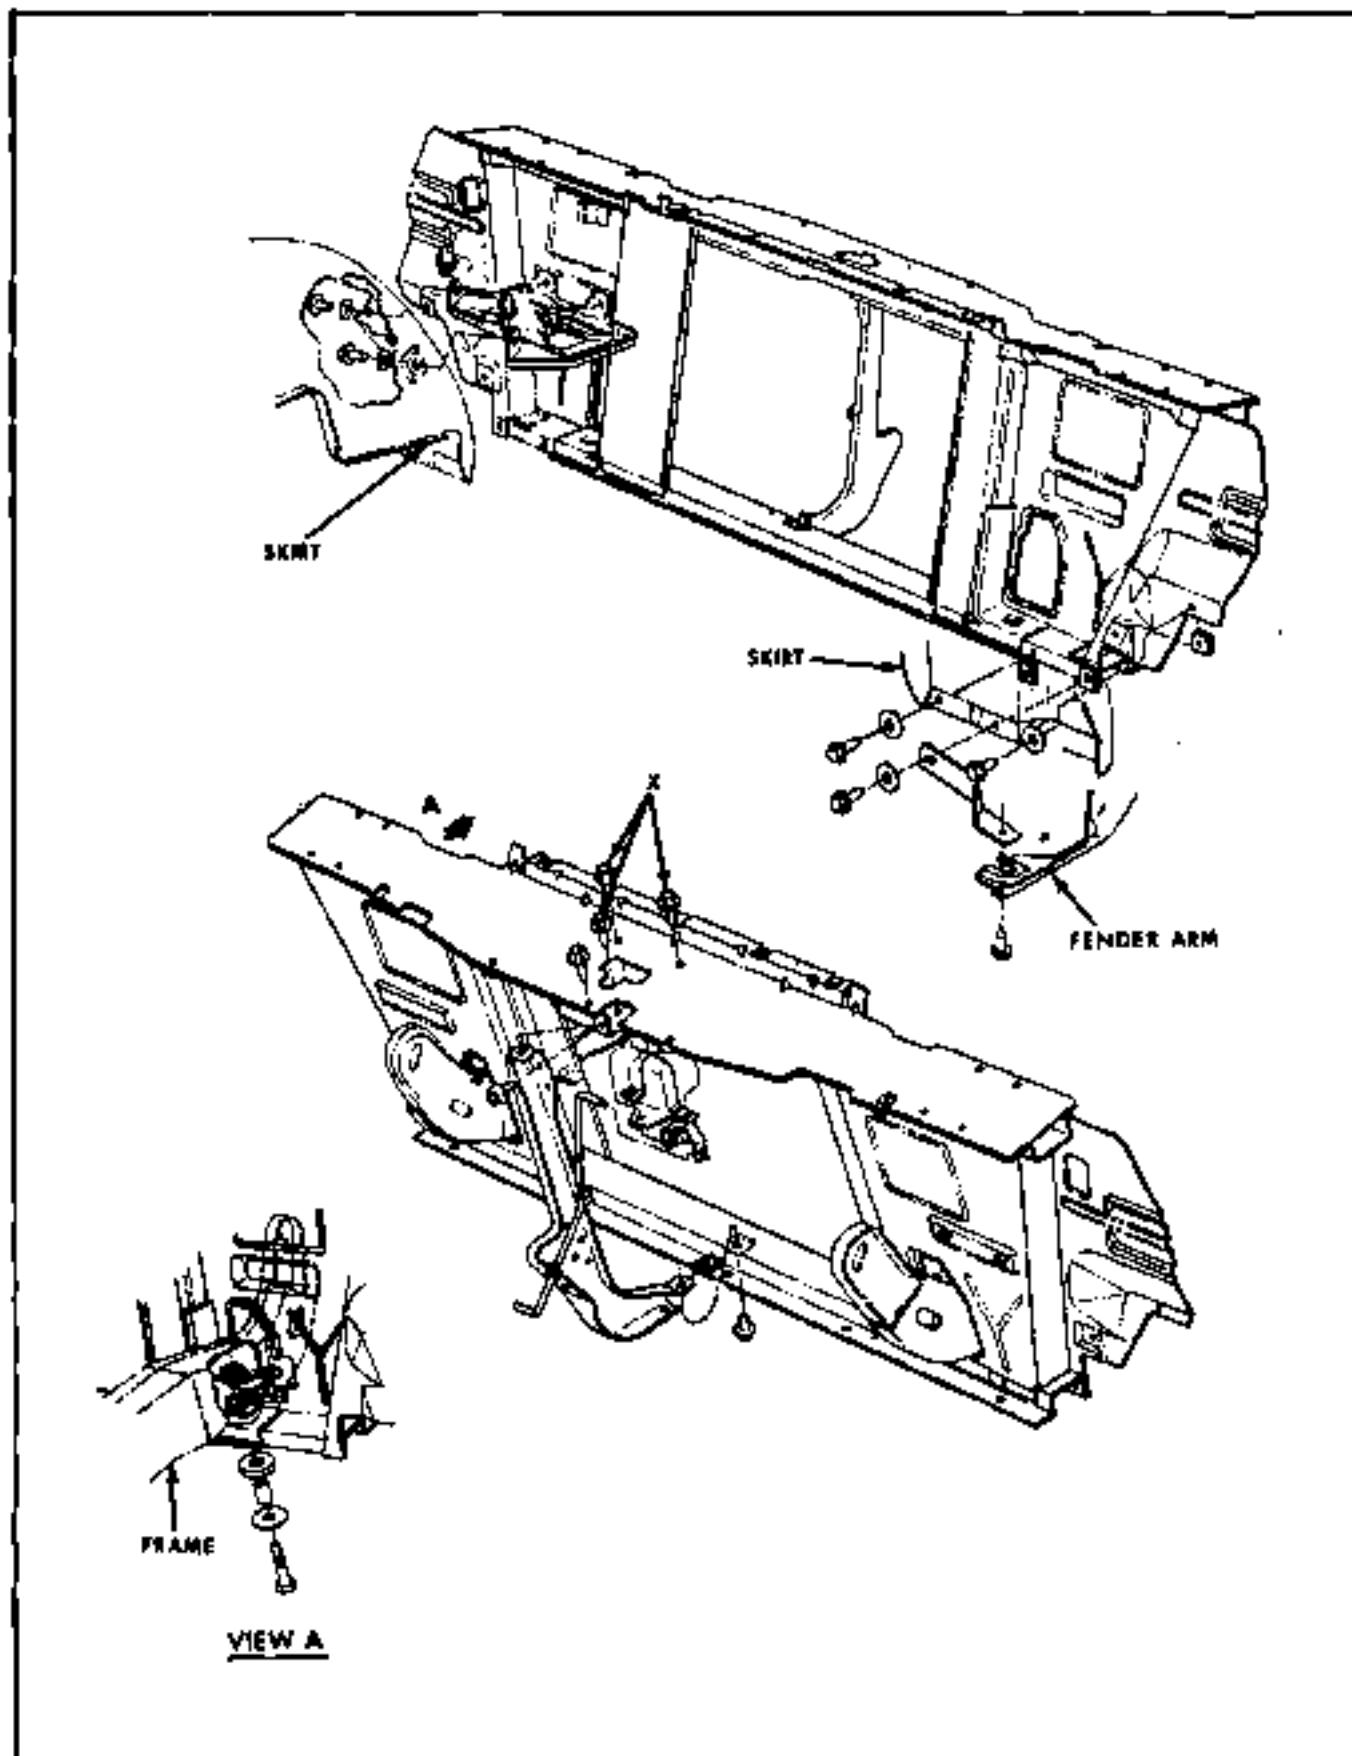

Fig. 11-2 Pontiac Hood Latch
1. Loosen latch attaching bolts (marked "X" in Figs. 11-2, 3 and 4) to finger-tight.